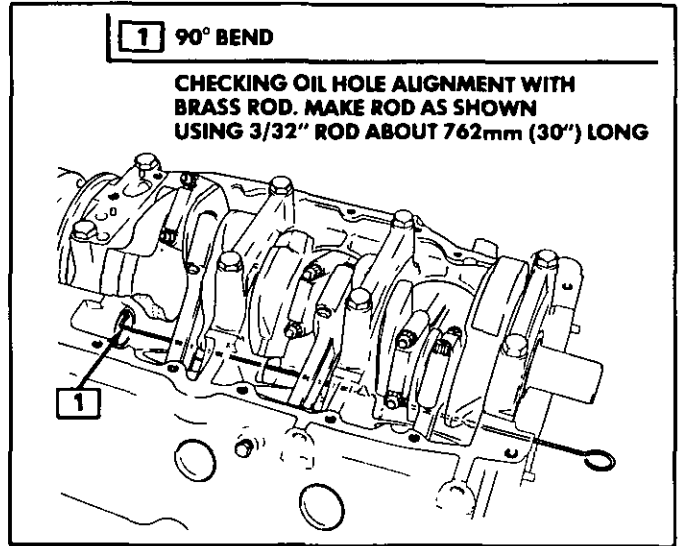

Figure 44 Checking Camshaft Bearing Oil Hole Alignment
- With a piece of 3/32" brass rod with a 90° bend at the end, probe the bearing oil holes and verify that they are properly aligned (Figure 44).